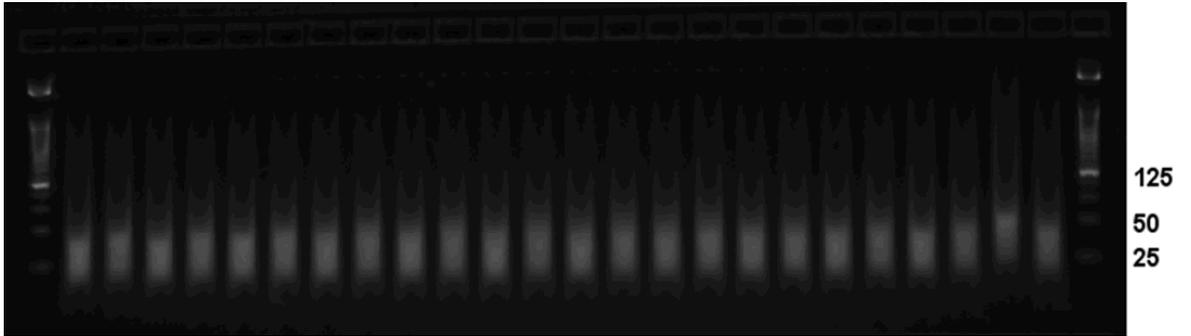

Figure D.2 Typical Example of Fragmented PCR Products Run on an E-Gel 48 4% Agarose Gel for 22 min.
4. Inspect the gel and compare it against the example shown in Figure D.2 on page 333.